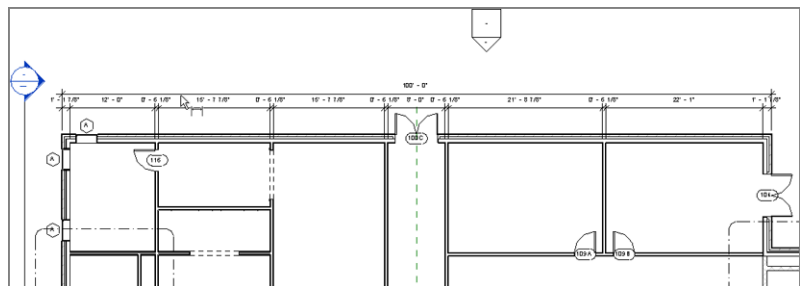

FIGURE 5.5 : Adding a major dimension by turning off the Intersecting Walls choice in the Auto Dimension Options dialog box
15. When you see the dimension snap, pick that point (see Figure 5.5).